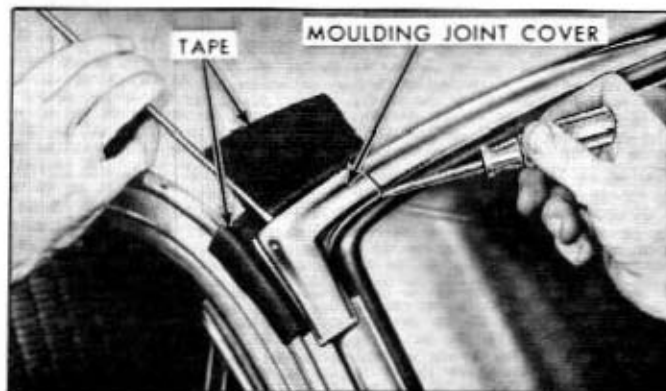

Fig. 13C-1—Moulding Joint Cover Removal—(60C-8040)
2. Tape the roof panel at the upper corners to prevent scratching, and remove the moulding joint covers. See figure 13C-1. The covers are retained by a snap fit.
3. Remove the top moulding retaining screws. See figure 13C-2.